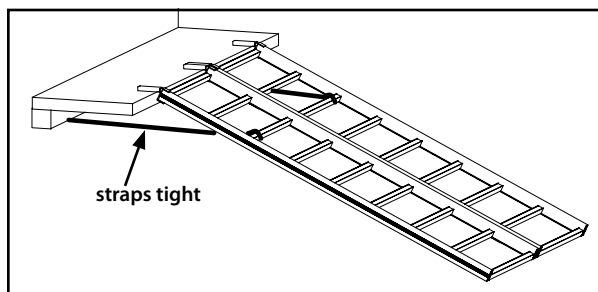

Figure 2
1. On level ground, open ramp completely and rest on tailgate. **SEE FIGURE 2.** Be sure ramp is centered on tailgate.